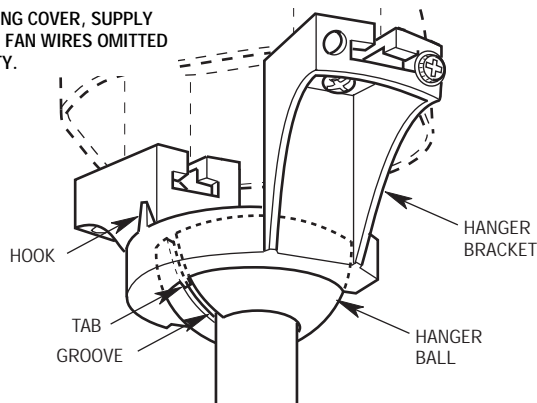
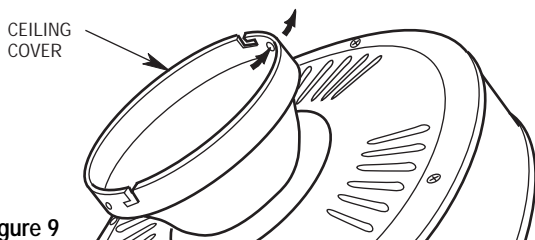

Figure 8
Figure 9
1. Carefully lift the fan assembly and seat the hanger ball in the hanger bracket (Figure 8). The tab on the hanger bracket must seat in the groove in the hanger ball.
1. Carefully lift the fan assembly up to the hanger bracket. Pass the hook on the hanger bracket (Figure 8) through one of the screw holes (not the slots) in the ceiling cover (Figure 9). The hook must pass from the inside of the ceiling cover to the outside. The hook will hold the fan assembly while connecting the wiring.